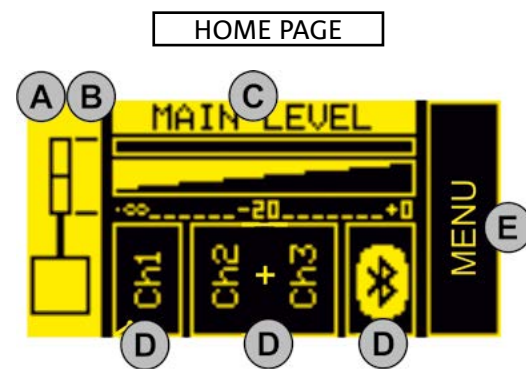

Figure 1
You can perform the following basic operations from the HOME page (figure 1):
- A. use [5] to select the left box (figure 1) and highlight it. Confirm and turn to select the appropriate configuration. You can set the ES1203 system as:
- DOUBLE COLUMN STEREO MASTER LEFT (ML)
- DOUBLE COLUMN STEREO SLAVE LEFT (SL)
- DOUBLE COLUMN STEREO MASTER RIGHT (MR)
- DOUBLE COLUMN STEREO SLAVE RIGHT (SR)